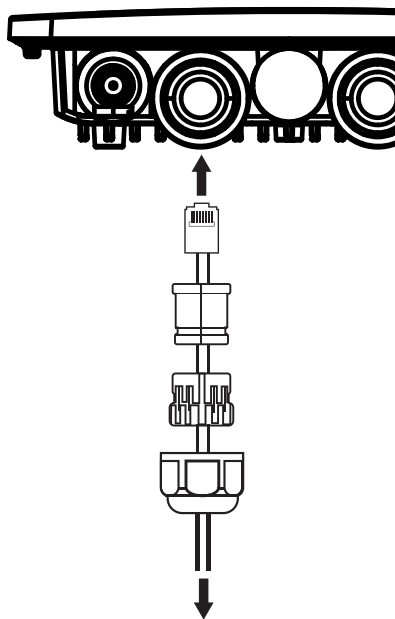

Figure 8: Securing the Ethernet cable
2. Remove the nut and washer from the bolts and place the bolts in the holes as shown below in figure 8.